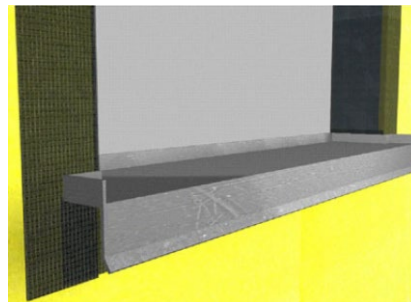

Figure 6
- 6) Install diagonal “butterflies” consisting of AquaFlash Liquid and AquaFlash Mesh at each sill/jamb corner – Figure 6.